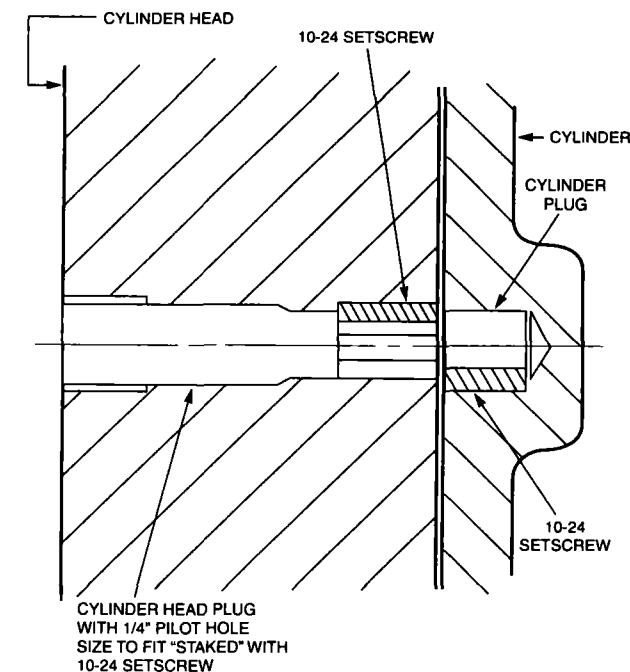

FIG 15. — Cylinder head plug with 1/4 inch pilot hole size to fit "staked" with 10-24 setscrew.
- Redoweling on units which have larger dowels may be redoweled with the next larger size dowels. Alternately cast iron plugs (steel is too difficult to ream) may be machined for insertion into the existing cylinder dowel holes and secure with "Loctite" and an Allen setscrew between insert O.D. and cylinder (Figure 15). Similar cast iron inserts for the cylinder heads should be machined with a 1/4 inch pilot hole and secured as shown on Figure 15. These inserts will permit redoweling with 3/8 or 7/16 inch dowels. After redoweling, the diameter of jackscrew tips must be cut down to less than dowel diameter.